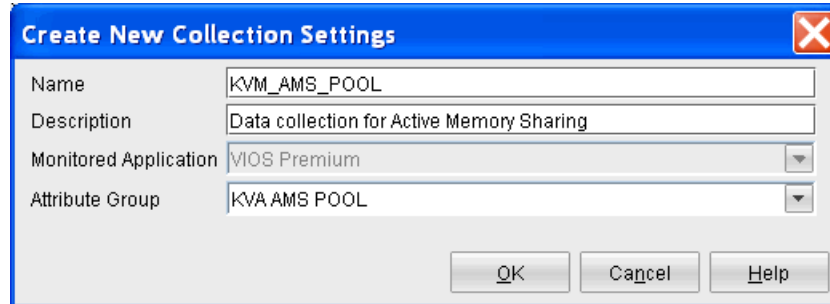

Figure 18-20 Create New History Collection window
3. Specify which attribute groups you want to collect data for, and create history collections for them, as shown in Figure 18-20. This window is opened by clicking the **Create new collection setting** icon in the upper left of the History configuration window.